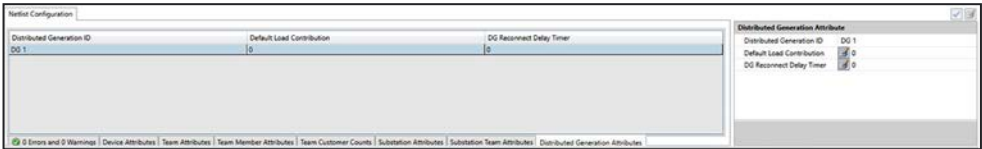

Figure 34. The Distributed Generation Attributes Tab.
Distributed Generation Attributes Tab	Distributed Generation ID This is automatically populated by running the Validate command. It provides a unique designation used by the IntelliTeam SG system to identify each distributed generation team. See Figure 34.
- STEP 2.** Put SRC 1 on the left and SRC 2, SRC 3, and SRC 4 on the right. Move the sources on the right so SRC 2 is on the top and SRC 4 is on the bottom. See Figure 34. Text color is automatically adjusted for the source box color.